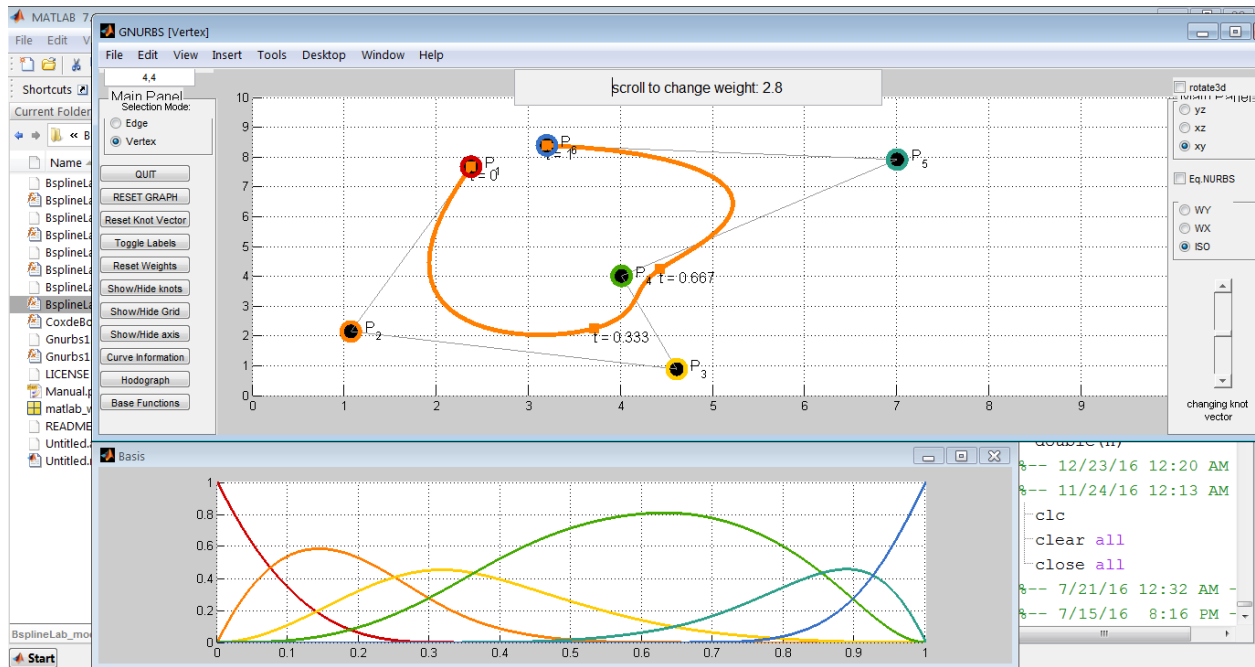

Figure 10: Interactive plot of basis functions corresponding to each control point.
By clicking the “Basis Functions” button (17) from the left panel, the main window automatically resizes to show the NURBS curve and the basis functions on the screen. The graph of basis functions is color coded, implying that a color is assigned to each control point and the corresponding basis function is plotted in the same color (see Figure 10). The basis functions graph is also interactive. That is, by selecting a control point and changing the weight, the graph of basis functions also updates. Also, by selecting each weight type from the right panel, the graph of basis functions for the selected weight is depicted and updates by changing the corresponding weight value.